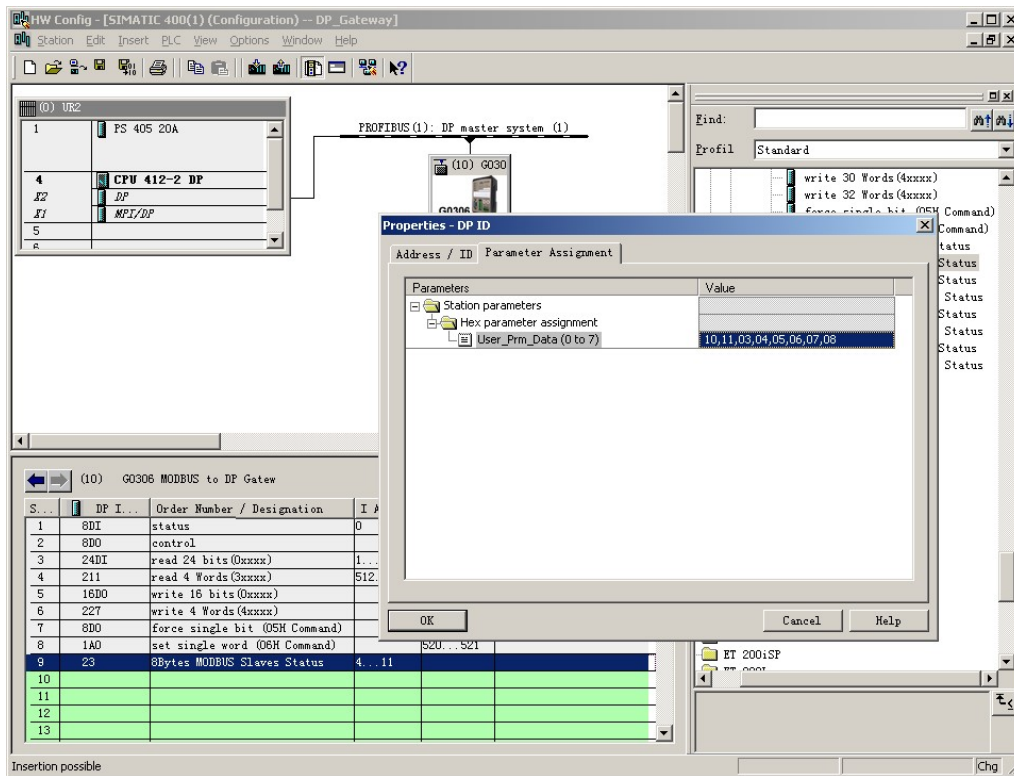

Figure 39 Configure the slave address to be monitored
c) Configure the user parameters of the "8Bytes MODBUS Slaves Status" module, as shown in Figure 39:
As shown in Figure 39, each device corresponds to one byte of module user parameters. In the previous example, a total of two slave stations 10 and 11 are configured, so these two addresses are filled in the module user parameters.